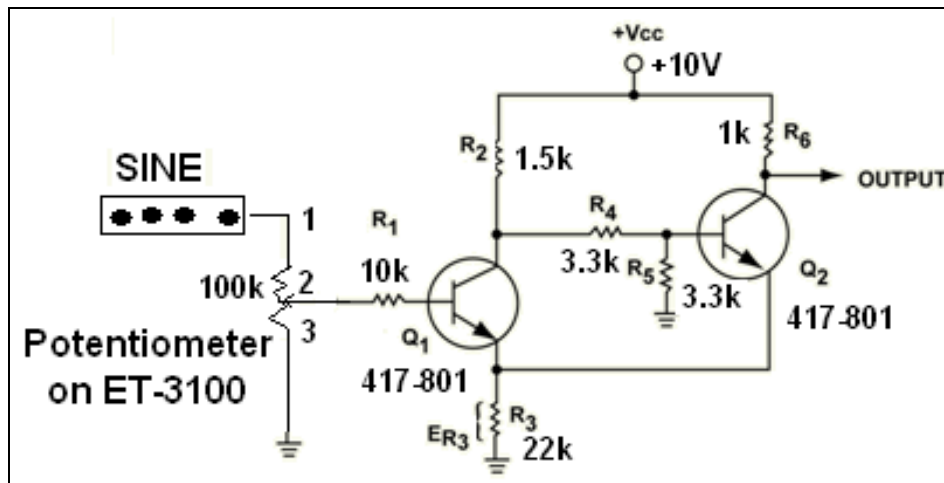

Fig. 1-3 Schmitt Trigger
18. Construct the circuit shown in Fig. 1-3. Turn on the Trainer and set the supply voltage to +10 volts.